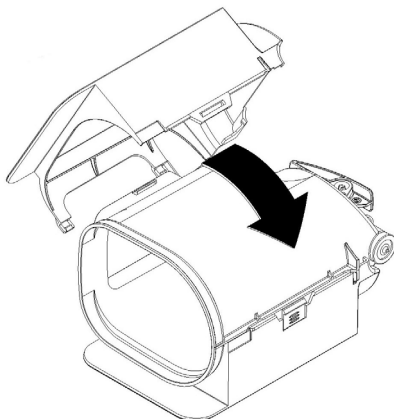

figure 16
- 2 Put the left-hand part of the recover into position and make sure that it fits into the illustrated groove. Click the two parts together. (see figure 16).